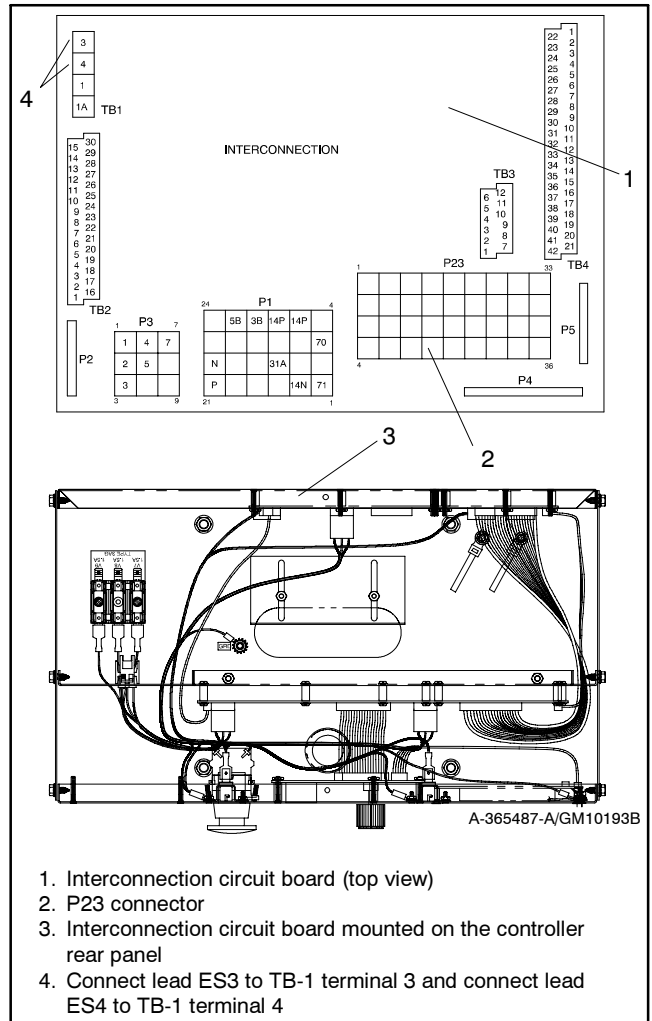

Figure 4 Attaching Wiring Connection Harness to Controller Circuit Board
- 2.5 Plug the wiring harness connector into the interconnection circuit board's P23 connector. Connect lead ES3 to TB-1 terminal 3 and connect lead ES4 to TB-1 terminal 4. See Figure 4. If access to the interconnection circuit board is difficult, remove the two controller panel top screws, center bottom screw, and then loosen the bottom screws to swing the rear controller panel down.